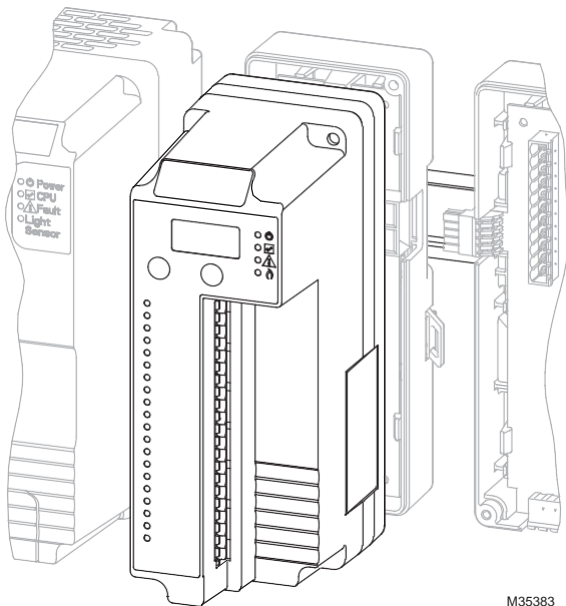

Fig. 3. Installing the Rectification Ampli-Check Flame Amplifier on the Sub-Base Module.
DIN Rail (See Fig. 3)
3. Install the Flame Amplifier on the Sub-Base. See Fig. 3.